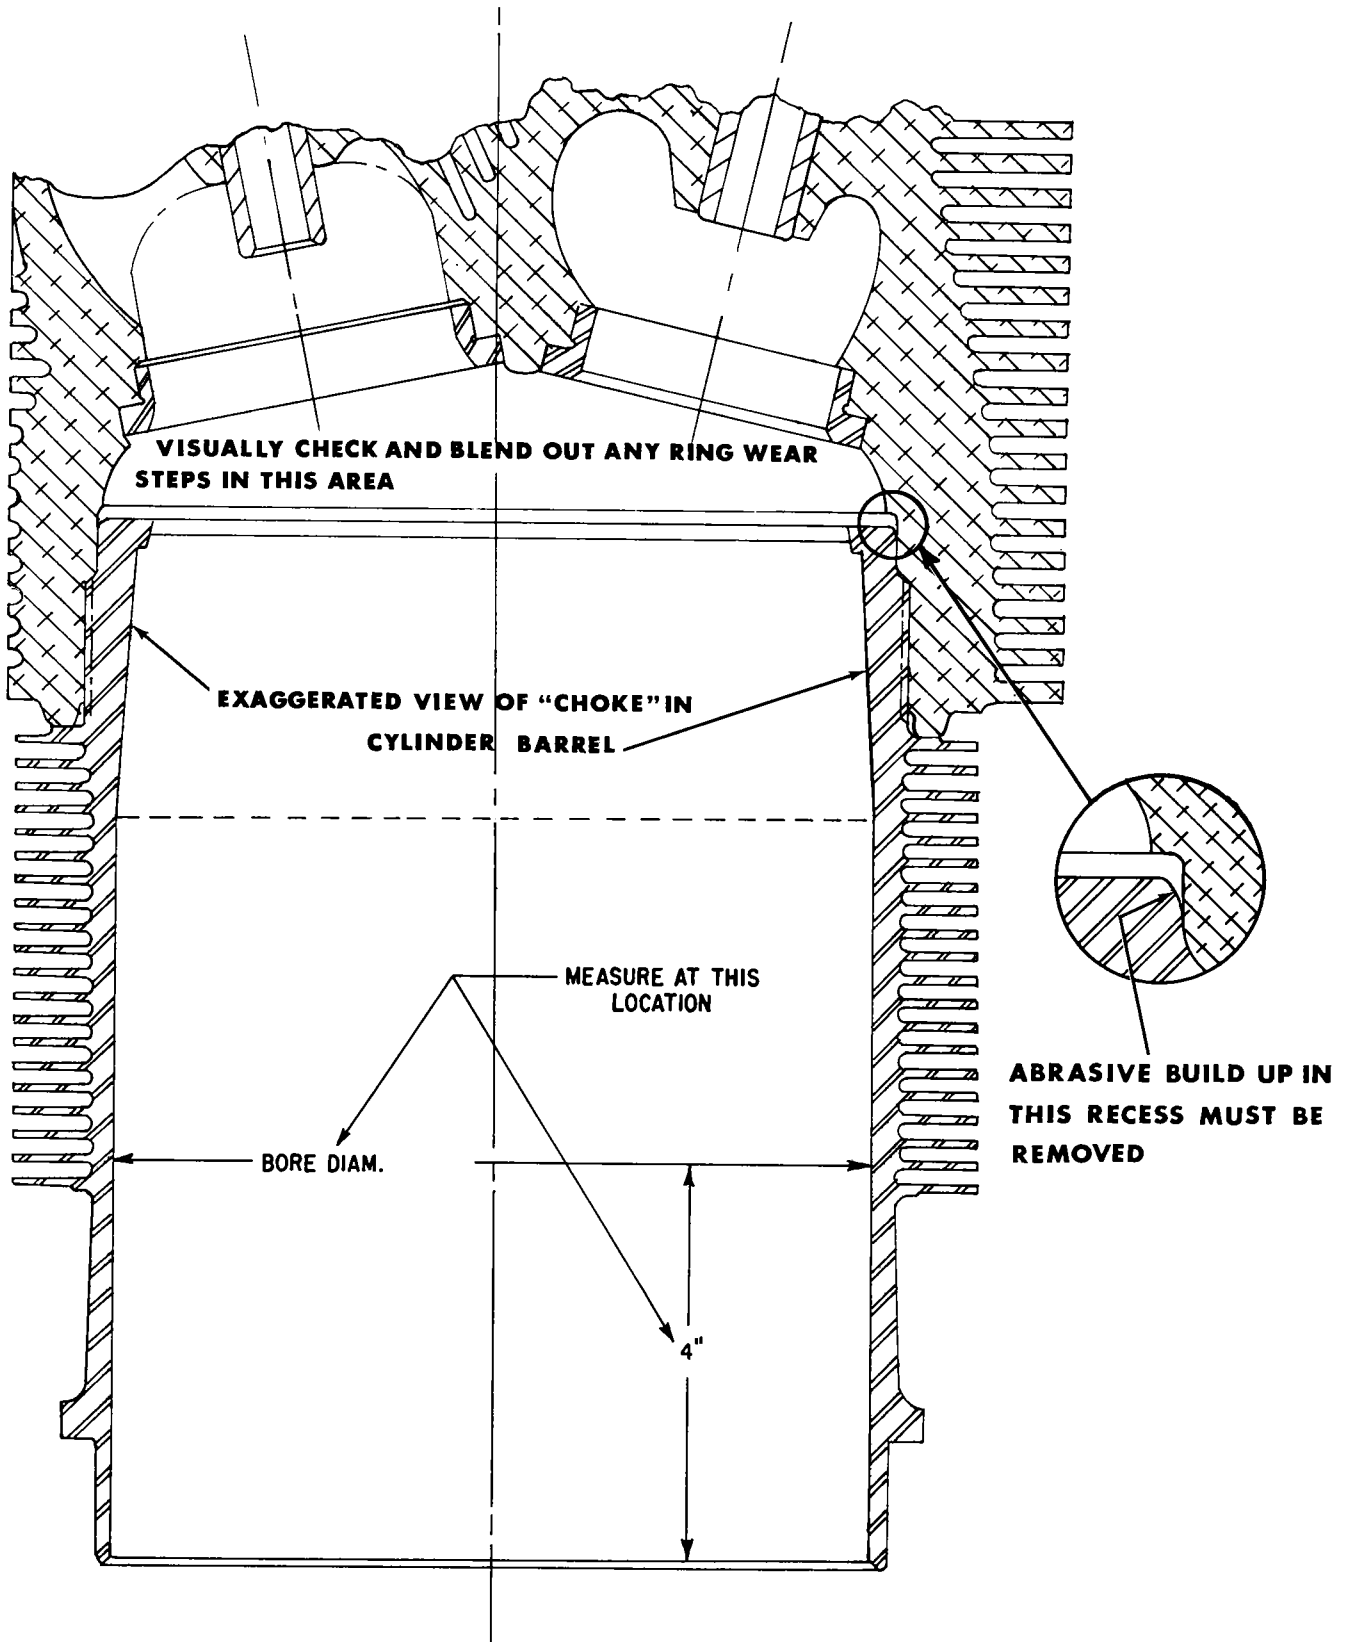
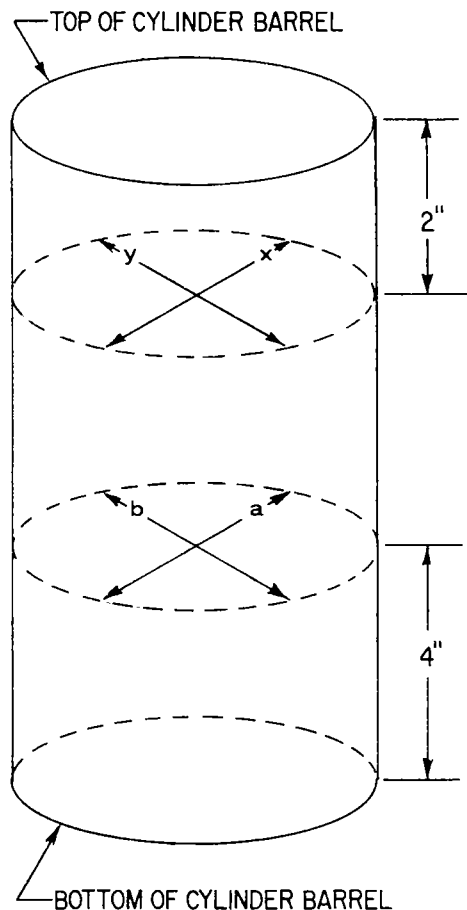

Figure 1. Section Through Cylinder Assembly Showing Locations for Checking Diameter and Removal of Wear Step
Figure 2. Diagram of Cylinder Barrel Showing Locations of Measurements
b. Dimensional Inspection:- Dimensional inspection of the cylinder barrel is limited to the area within four inches from the bottom of the barrel. See figure 1. A bore gage, with three points of contact and fitted with a dial indicator is preferable to an inside micrometer for measuring the cylinder barrel. Dimensional inspection of the cylinder barrel should be accomplished in accordance with the following description which explains how an average measurement can be made, thereby avoiding extremes that can occur when only a single measurement is taken. The diagram, figure 2, illustrates the following description. To measure cylinder diameter:
(1) Measure diameter a and diameter b at 90° from each other, 4 inches above the bottom of the cylinder skirt.
(2) Add diameters a and b and divide the sum by 2 to obtain the average diameter.
f. When de-glazing procedure has been accomplished, wipe as much as possible of the abrasive build-up from cylinder walls and recesses. Pay particular attention to recess formed by top of cylinder barrel and bottom of cylinder head. Fabricate a hooked tool from soft wire and run the tool around in the recess to loosen build up of abrasive. This operation must be performed each time the cylinder is flushed. No abrasive must remain in this area. See figure 1. Proceed to clean cylinder as follows: